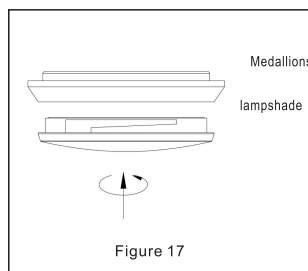

Figure 17
3. Replace the lamp, the lamp panel on three screws loosen, fitted with glass, and then tighten the screws (Figure 17).